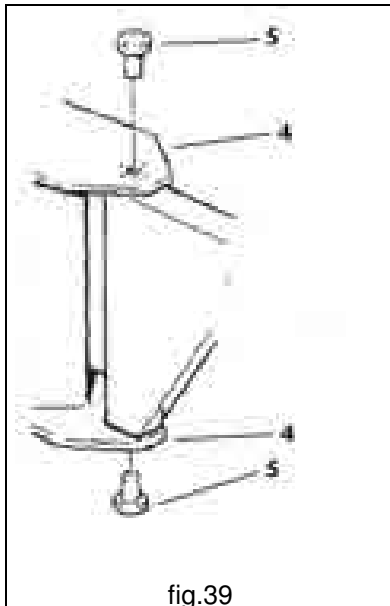

fig.39
3. Insert the tube between the plates **4** until the rotation axis of the tube coincides with that of the plates and insert the rotation pivots **5**, after lubricating them with grease (fig.39).